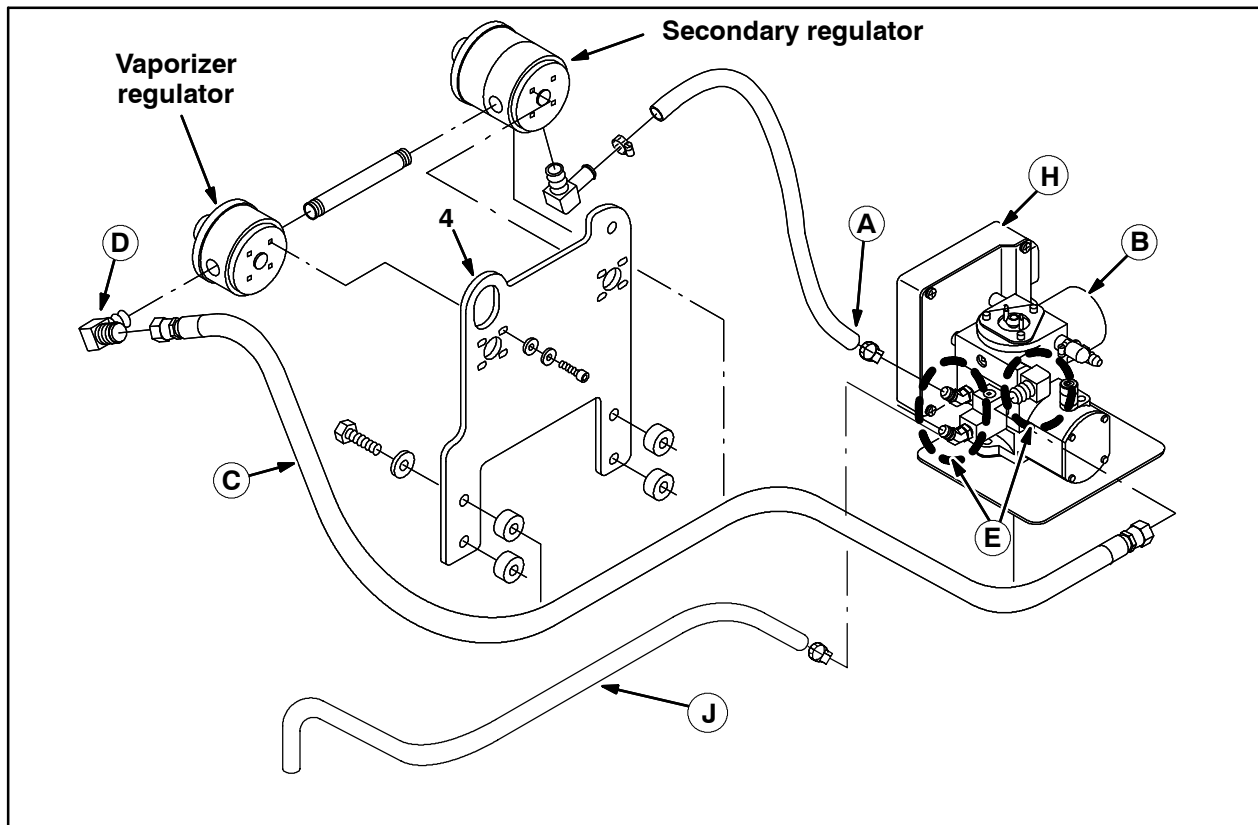

FIG. 8
NOTE: Complete Steps 13 through 19 only if the plugs must be removed from the bottom of the vaporizer regulator and the secondary regulator to drain excess oil. Refer to Fig. 8.
18. Remove the drain plugs from the bottom of the vaporizer regulator and secondary regulator, and allow the vaporizer regulator and secondary regulator to drain. Refer to Fig. 8.
19. Reinstall the drain plugs into the vaporizer regulator and the secondary regulator when they are through draining. Refer to Fig. 8.
1. Disconnect the end of the heater hose (A) and the end of the hose from the engine thermostat (J) from the LPG throttle housing assembly (B). Refer to Fig. 8.
2. Remove and discard the high pressure LP hose (C), the fitting attached to the regulator (D), and the three fittings attached to the LPG throttle housing assembly (E). Refer to Fig. 8.